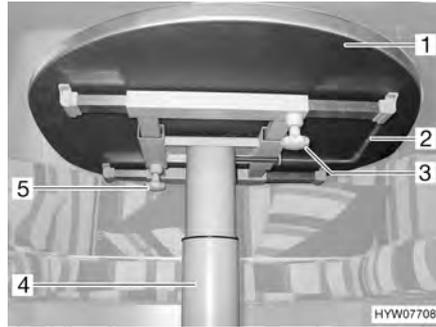

Fig. 88 Lift-off table
- Undo the knurled screw (Fig. 88,5).
- Move the table-top (Fig. 88,1) to the desired position.
- Undo the knurled screw (Fig. 88,3).
- Swivel the lever (Fig. 88,2) under the table top (Fig. 88,1) by 180° to the left. The lifting mechanism in the table leg (Fig. 88,4) is unlocked.
- Swivel the lever (Fig. 88,2) under the table top (Fig. 88,1) by 180° to the left. The table-top moves upwards to the limit stop.